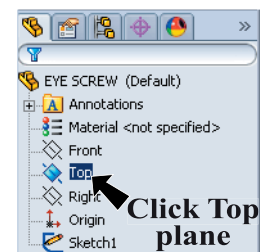

Fig. 8
Step 2. Click **Top**  (plane) in the Feature Manager, **Fig. 8**.